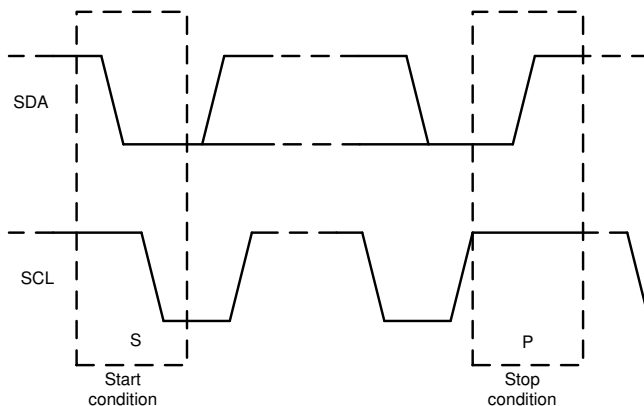

Figure 51. Start and Stop Conditions
1. The master initiates data transfer by generating a start condition. The start condition is when a high-to-low transition occurs on the SDA line while SCL is high, as shown in Figure 51. All I²C-compatible devices recognize a start condition.
4. To signal the end of the data transfer, the master generates a stop condition by pulling the SDA line from low-to-high while the SCL line is high (see Figure 51). This action releases the bus and stops the communication link with the addressed slave. All I²C-compatible devices recognize the stop condition. Upon receipt of a stop condition, the bus is released, and all slave devices then wait for a start condition followed by a matching address.